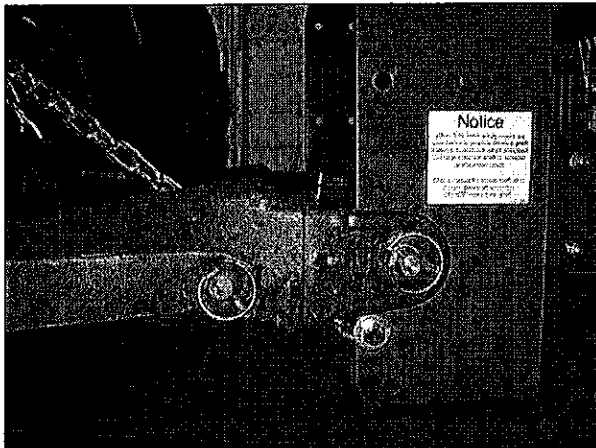

Figure 2
2. Attach a 39 link chain to each side of the 3 pt. mounting frame below each hitch pin. The chains need to be on the inside of the side plates and fastened with a 1/2" x 1 1/2" Gr. 5 bolt, flat-washer, lockwasher, and nut (figure 2).